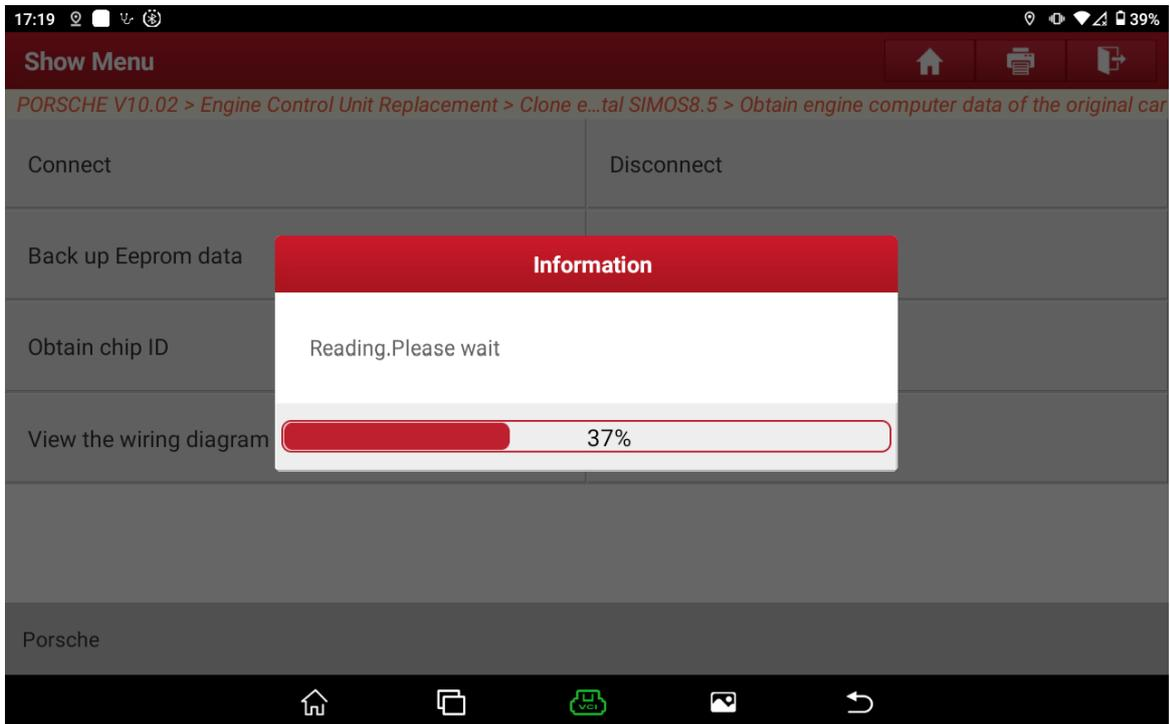
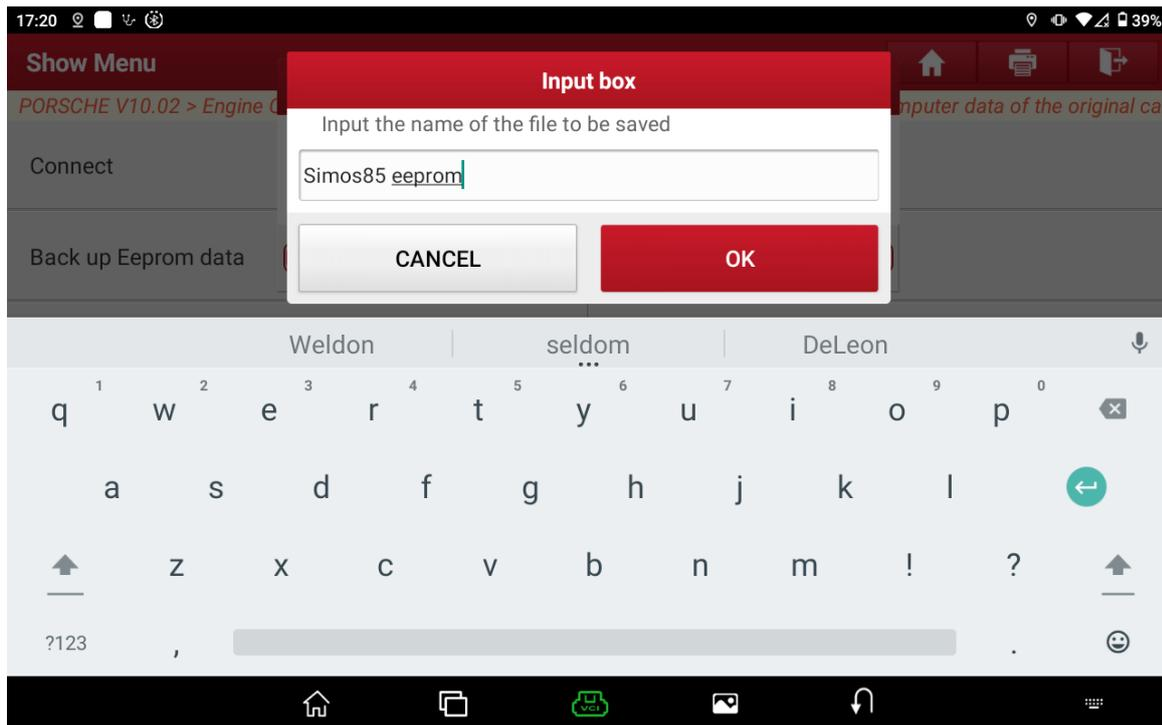
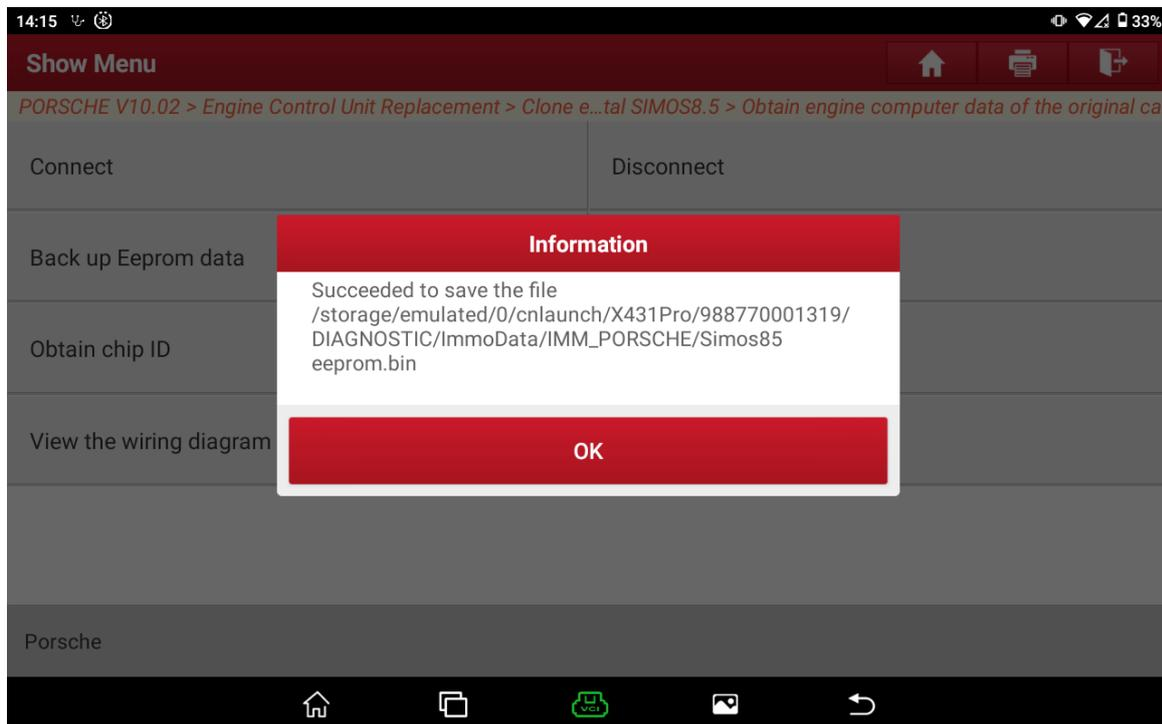

Figure 6
Figure 7
Figure 8
- Execute **【Backup Eeprom data】**, input the name of the file to be saved and save the Eeprom data, as shown in Figure 6, Figure 7, and Figure 8: